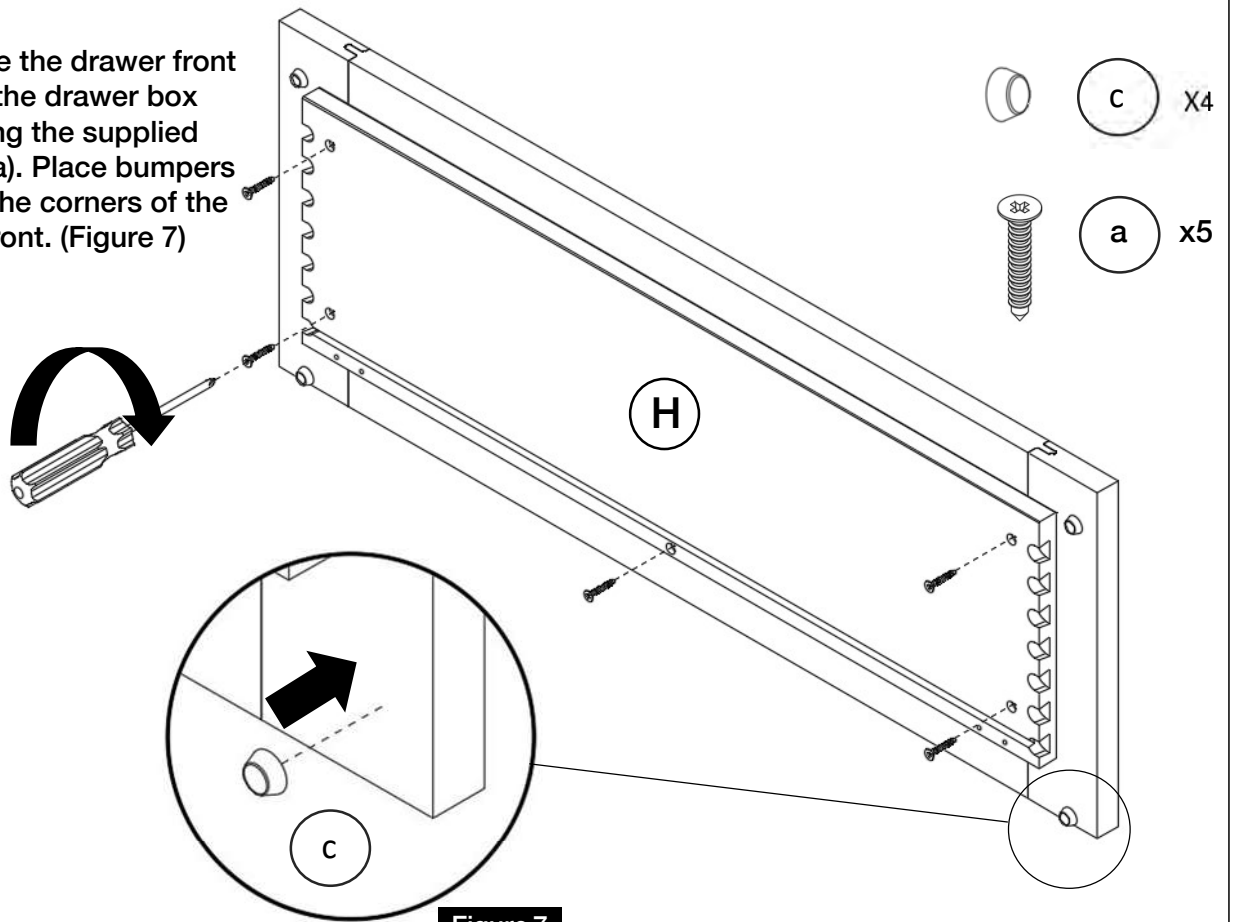

Figure 7
Assemble the drawer front (H) onto the drawer box front using the supplied screws (a). Place bumpers (c) onto the corners of the drawer front. (Figure 7)